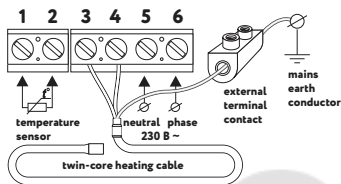

Fig. 2. Mat-mains connection scheme
- 5.** Install the thermostatic regulator (with mains voltage turned off!) in accordance with the accompanying instructions. Mat-mains connection scheme is shown on Figure 2